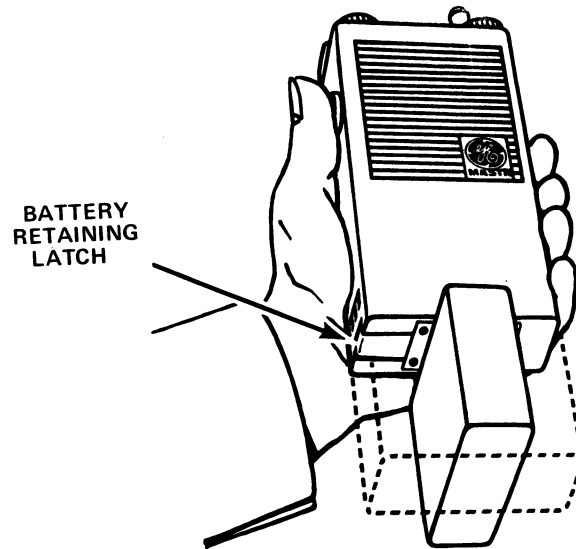

Figure 4 - Battery Pack Replacement
1. Hold the battery pack at a 90° angle to the radio as shown in Figure 4.
2. Press the battery retaining latch away from the battery pack as shown in Figure 4 and turn the battery pack one-quarter turn to the left. The battery pack can now be detached from the radio.